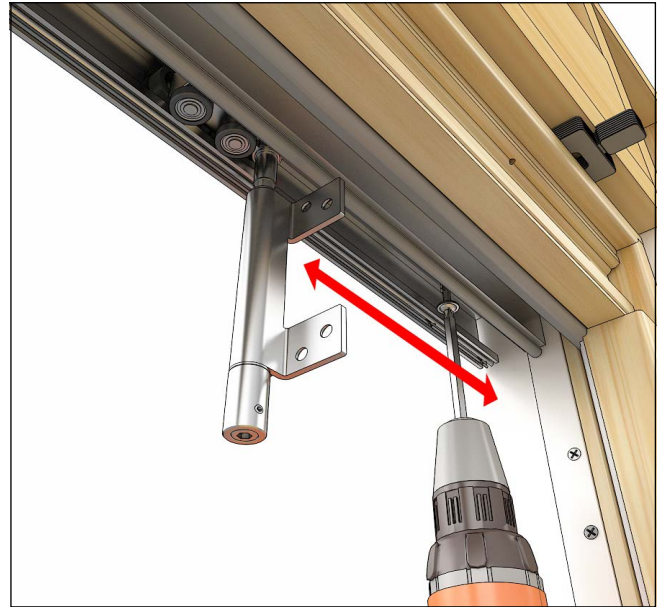

Figure 16
7. Place shims at each head jamb install screw location. Fasten the head jamb track through all the pre-drilled holes and test fit carrier. Apply sealant to the threads and heads of each screw prior to fastening. See Figure 16. *NOTE: These screws are installed at a slight angle towards the interior.*